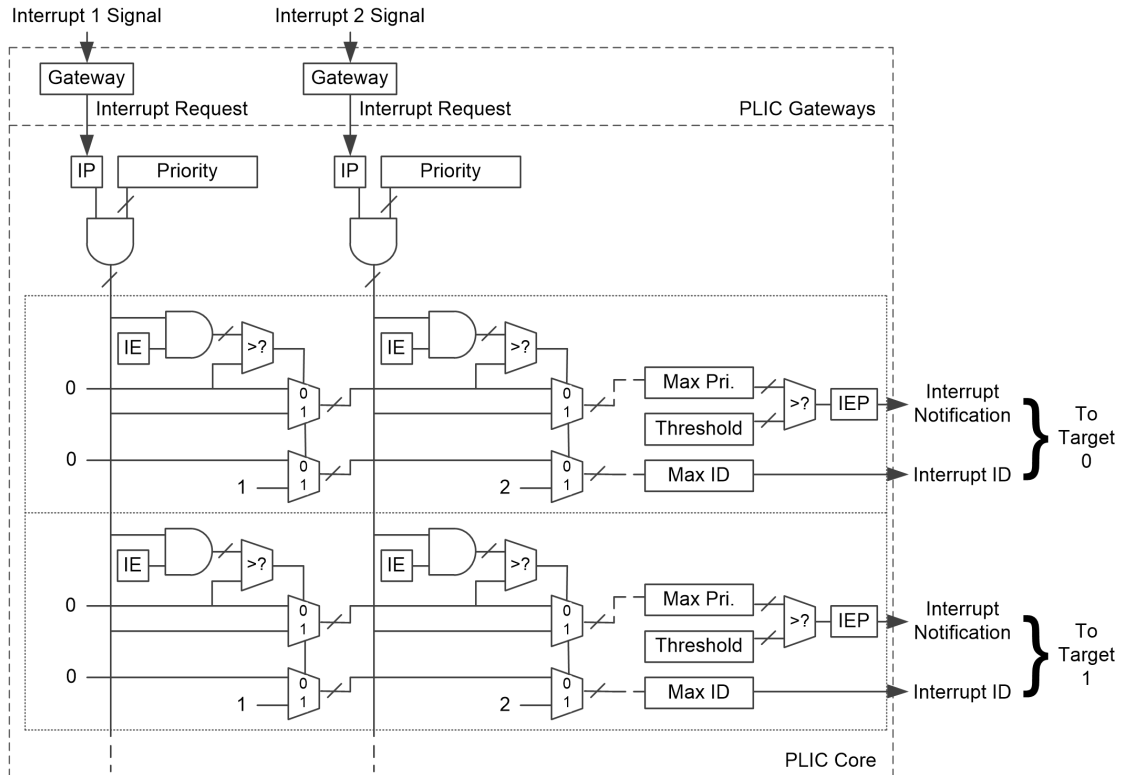

Figure 7.3: Platform-Level Interrupt Controller (PLIC) conceptual block diagram.
Platform-Level Interrupt Controller prioritizes and distributes global interrupts in a processor system. Figure 7.3 provides a quick overview of PLIC operation. The PLIC connects global interrupt sources to interrupt targets, which are usually hart contexts. The PLIC contains multiple interrupt gateways, one per interrupt source, together with a PLIC core that performs interrupt prioritization and routing. Each interrupt source is assigned a separate priority. The PLIC core contains a matrix of interrupt enable (IE) bits to select the interrupts that are enabled for each target. The PLIC core forwards an interrupt notification to one or more targets if the targets have any pending interrupts enabled, and the priority of the pending interrupts exceeds a per-target threshold. When the target takes the external interrupt, it sends an interrupt claim request to retrieve the identifier of the highest-priority global interrupt source pending for that target from the PLIC core, which then clears the corresponding interrupt source pending bit. After the target has serviced the interrupt, it sends the associated interrupt gateway an interrupt completion message and the interrupt gateway can now forward another interrupt request for the same source to the PLIC.